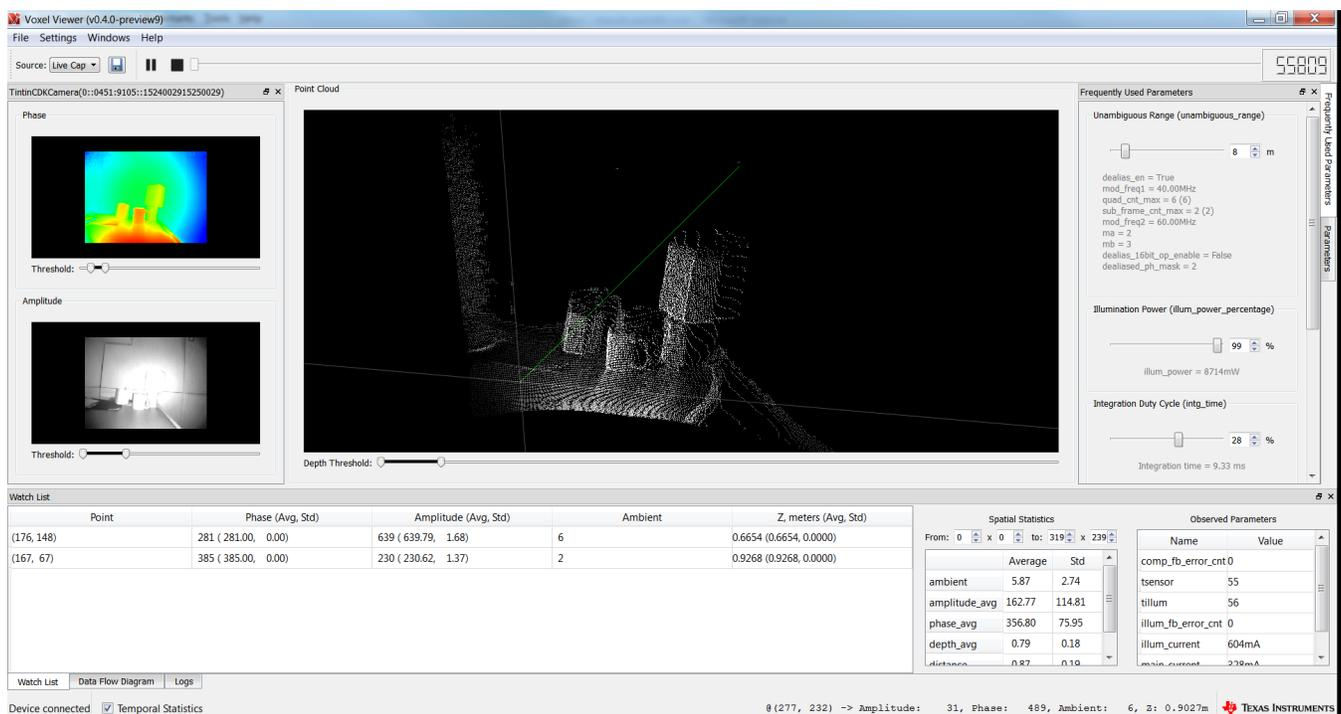

Figure 7. Streaming Enabled
4. A sample screenshot with streaming enabled is shown in Figure 7.